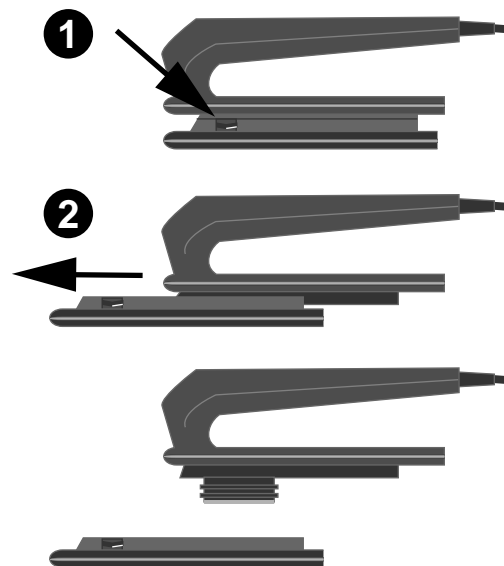

Figure 4-5. Removing the large contact surface from the paddles
- Press on the lock button **1** (Figure 4-5).